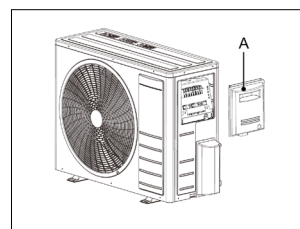

fig. 26 -
1. Retire o painel lateral (A - "fig. 26 -").